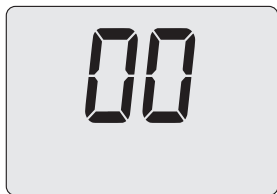

Fig. 8.39
- By using buttons 16 or 17 (Fig. 8.31) it is possible to modify the value of parameter A01 (Fig. 8.39).